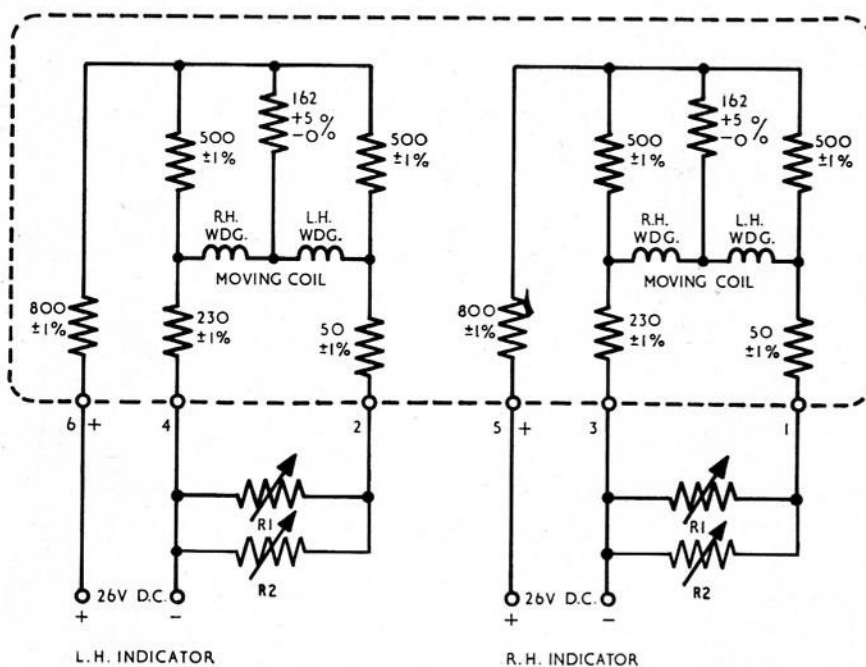

Fig. 2. Combined circuit and test circuit diagram
3. The circuit diagram is shown in fig. 2. Connections to the indicator are made via six terminal screws.